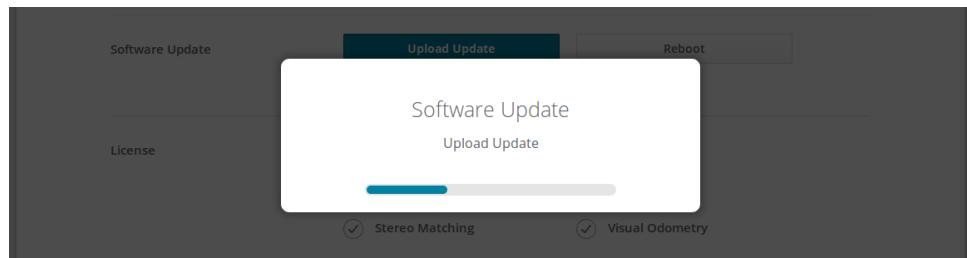
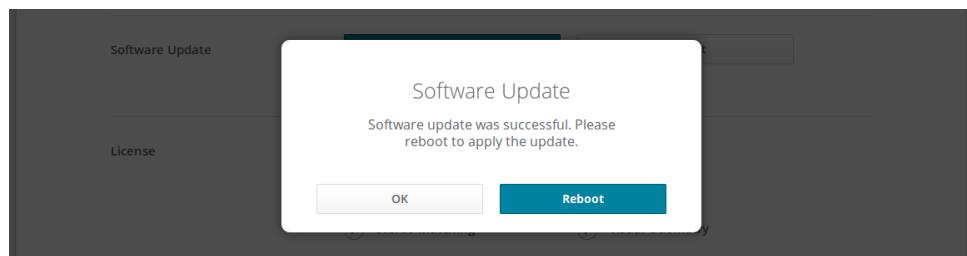

Fig. 9.3.2: Software update progress bar
Fig. 9.3.3: Software update rebooting screen
**Note:** Depending on the network architecture and configuration the upload may take several minutes. During the update via the Web GUI, a progress bar indicates the progress of the upload as shown in Fig. 9.3.2.
**Note:** Depending on the web browser, the update progress status shown in Fig. 9.3.2 may indicate the completion of the update too early. Please wait until the context window shown in Fig. 9.3.3 opens. Expect an overall update time of at least five minutes.
After having uploaded the new firmware via the Web GUI, a context window is opened as shown in Fig. 9.3.3 offering to reboot the device immediately or to postpone it. To reboot the *rc\_visard* at a later time, use the *Reboot* button on the Web GUI's *System* tab.